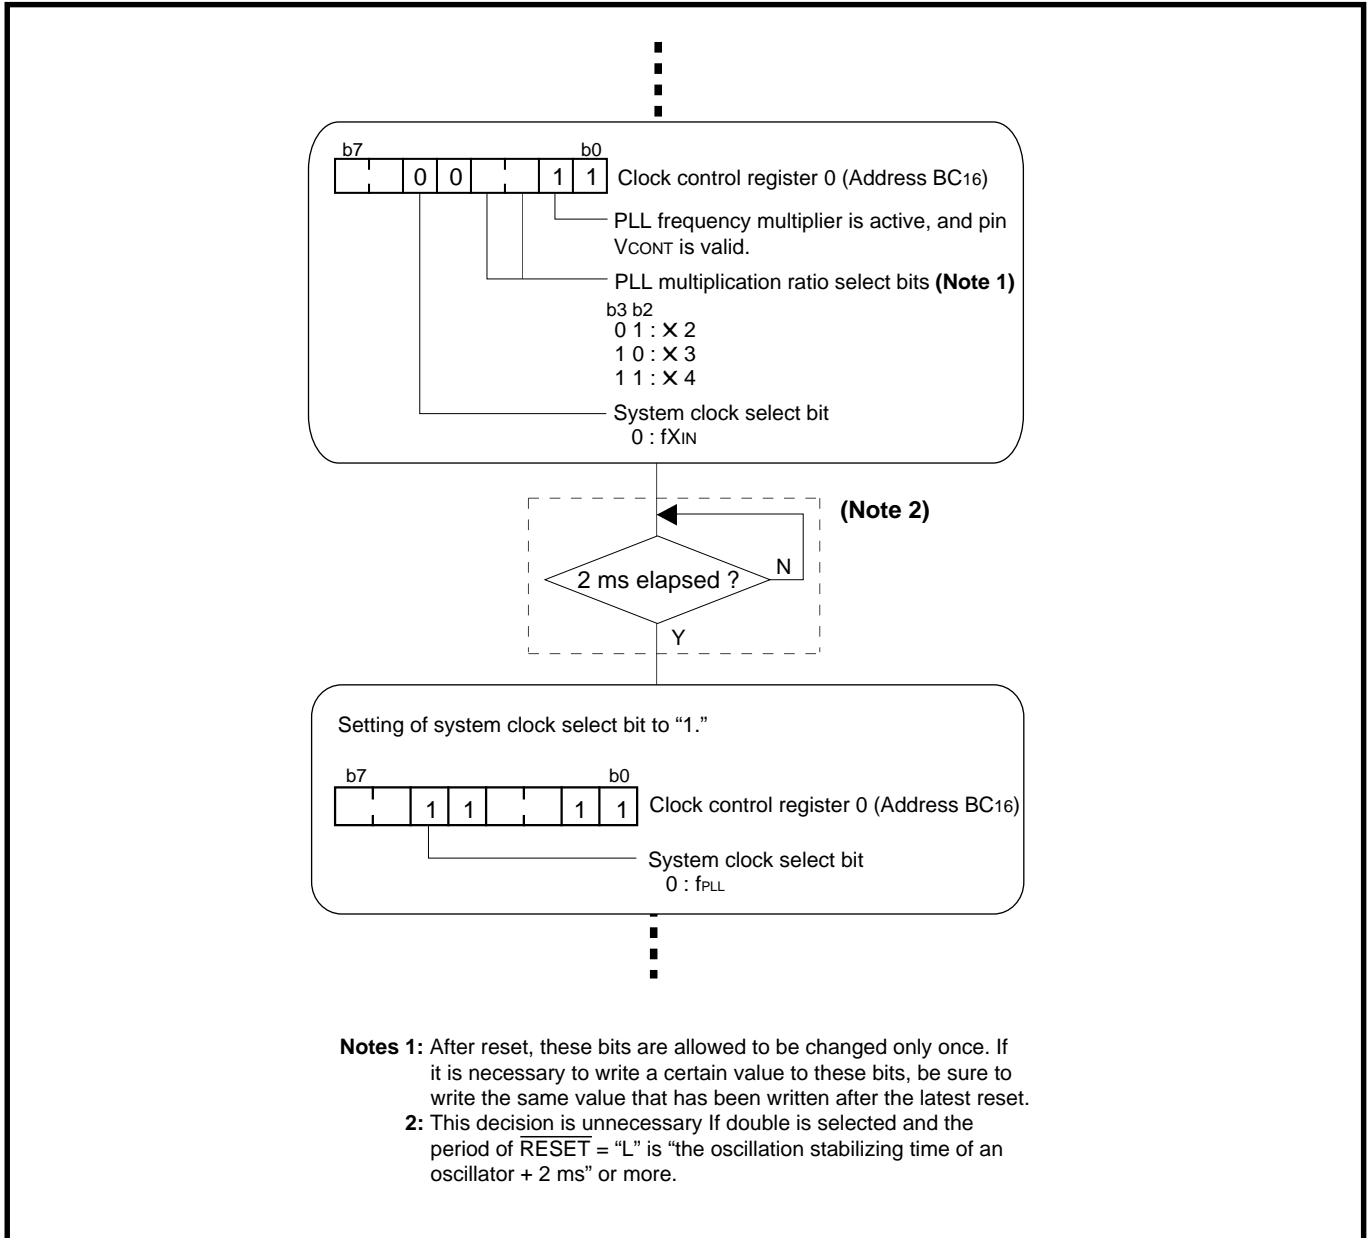

Fig. 4.2.3 Setting procedure for clock control register 0 when using PLL frequency multiplier
Figure 4.2.2 shows the structure of the clock control register 0, and Figure 4.2.3 shows the setting procedure for the clock control register 0 when using the PLL frequency multiplier.
These bits select the multiplication ratio of the PLL frequency multiplier. (See Table 4.2.1.) To rewrite these bits, clear the system clock select bit (bit 5) to "0" simultaneously. Then, set the system clock select bit to "1" 2 ms after the rewriting of this bit. (See Figure 4.2.3.) Note that, after reset, these bits are allowed to be changed only once.
To rewrite the PLL multiplication ratio select bits (bits 2 and 3), clear the system clock select bit to "0" simultaneously. Then, set this bit to "1" 2 ms after the rewriting of the PLL multiplication ratio select bits. (See Figure 4.2.3.)
2. To select f_{PLL} as f_{sys} after reset, set the system clock select bit (bit 5 at address BC₁₆) to "1" 2 ms after $f(\text{X}_{\text{IN}})$ has been stabilized. (See Figure 4.2.3.)
3. To change the multiplication ratio for the PLL frequency multiplier, clear the system clock select bit (bit 5 at address BC₁₆) to "0" simultaneously. Then, set the system clock select bit to "1" 2 ms after the rewriting of the PLL multiplication ratio select bits (bits 2, 3 at address BC₁₆). (See Figure 4.2.3.)